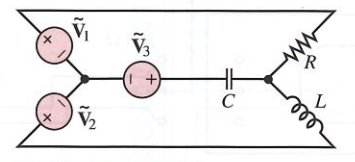

Figure P7.66
7.66 Determine the current through R shown in Figure P7.66. Assume: $\tilde{V}_1 = 150\angle 0^\circ$ V rms, $\tilde{V}_2 = 150\angle 2\pi/3$ V rms, $\tilde{V}_3 = 150\angle 4\pi/3$ V rms, $f = 300$ Hz, $R = 80\ \Omega$, $C = 0.3\ \mu\text{F}$, and $L = 80$ mH.